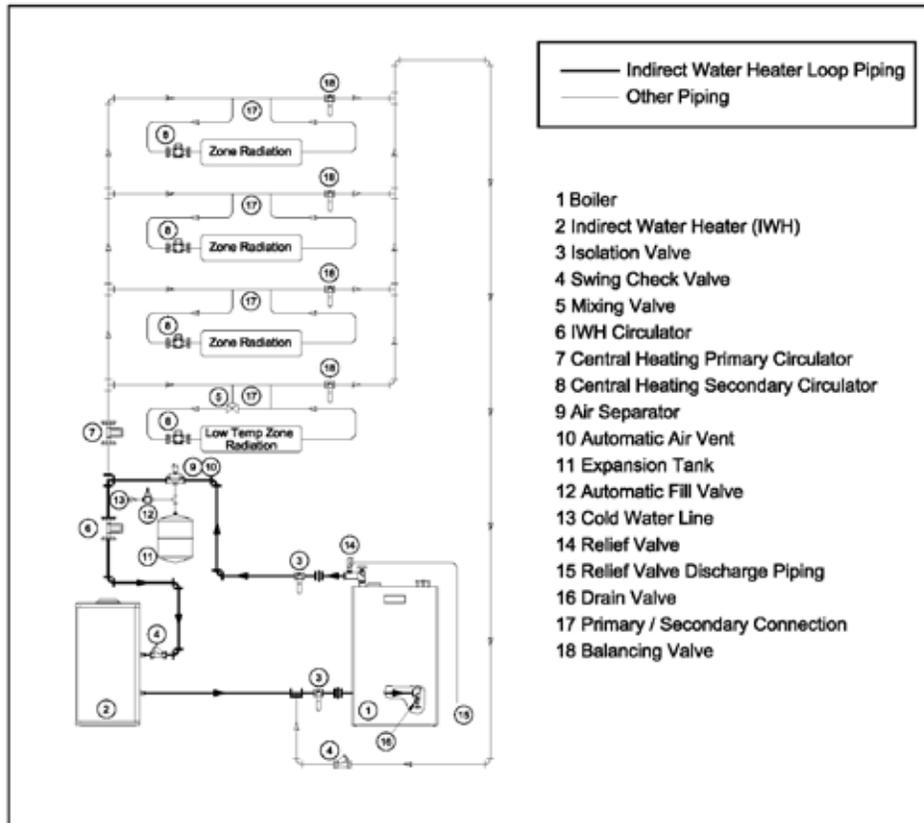

Figure 8.10c: Piping Method #2 - Indirect Water Heater Loop Piping (Bolded)
- a) Count all fittings in the planned Indirect Water Heater Loop (the indirect water heater loop consists of the bolded piping in Figure 8.10c). In doing so, you will be counting some piping and fittings which are common to the heating system primary piping (the “boiler loop”) and which were counted in Step 2a above. Do not count the elbows or fittings supplied with the boiler.